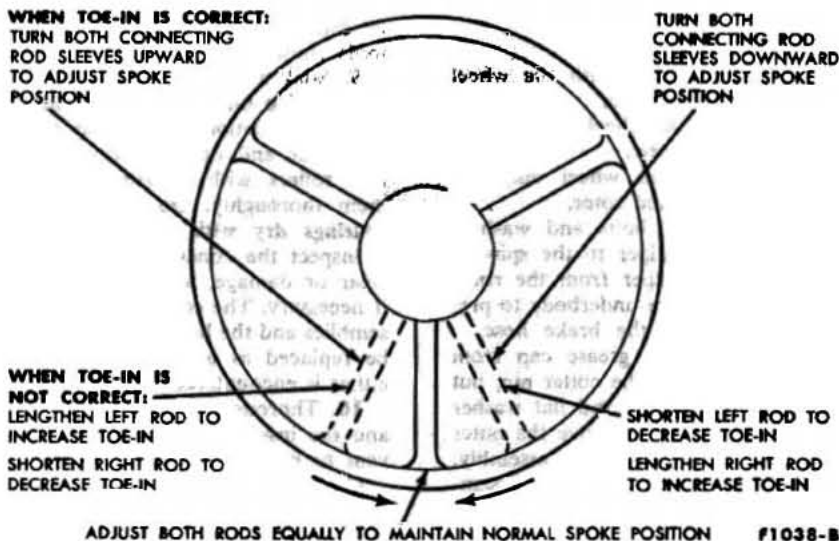

Fig. 86—Toe-in and Steering Wheel Spoke Adjustments—Three-Spoke Steering Wheels
2. Remove the cap from the steering wheel hub by pressing downward and turning the cap to the left. Make sure the alignment mark on the hub of the steering wheel is lined up with the mark on the end of the steering shaft. The mark on the end of the shaft indicates the high-point of the steering gear. With the front wheels straight-ahead, the alignment marks should be vertical and the steering wheel spokes should be in their normal position. If repositioning is required, the spokes can be repositioned without changing the toe-in setting (Fig. 86).